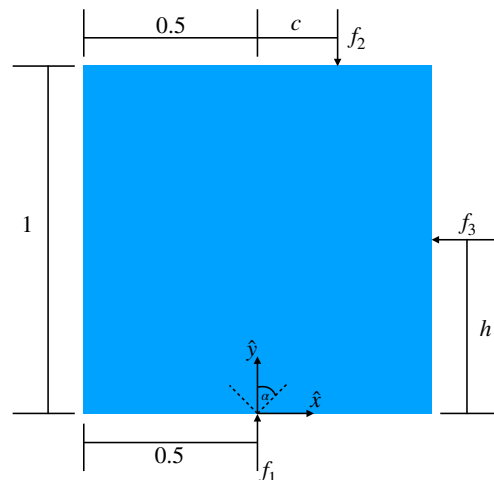

Figure 2: A uniform-density square restrained by three point contacts f_1 , f_2 and f_3 . \hat{x} and \hat{y} denote the axes of the reference frame.
- (vi)  Figure 2 shows a square that is restrained by three contact points: f_1 is a point contact with friction coefficient μ , while f_2 and f_3 are frictionless point contacts. The square has uniform density. First, derive the minimum value of μ for this grasp to yield force closure, as a function of h and c ! Next, if $c = \frac{1}{4}$ and $h = \frac{1}{2}$, compute the minimum value of μ for the grasp to result in force closure.